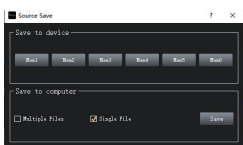

Figure 3.4.2
**Step 2:** Click "Save" item will pop up after the Save As dialog window machine preset (Figure 3.4.2).
**Step 3:** Figure 3.4.2 dialog box, does not show the name of the data indicates that this scene is the factory default data, select the user preset number you want to save the machine location (such as Option 4), and then point below the "save" button, you pop up as shown in Figure 3.4.2," enter the scene name "box. If you select the number of the existing scene name, it will overwrite the original data!!